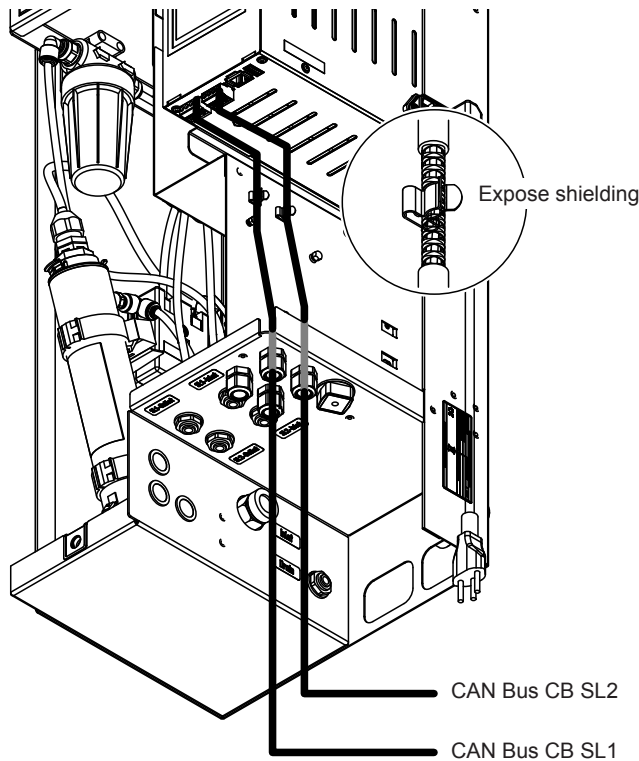

Fig. 23: Connecting CAN bus cables for spray loop 1 and spray loop 2 to the Control Box
- Connect the CAN Bus cable from spray loop 1 and, if present, spray loop 2 to the corresponding ports on the control box (CB) of the central unit according to Fig. 23.